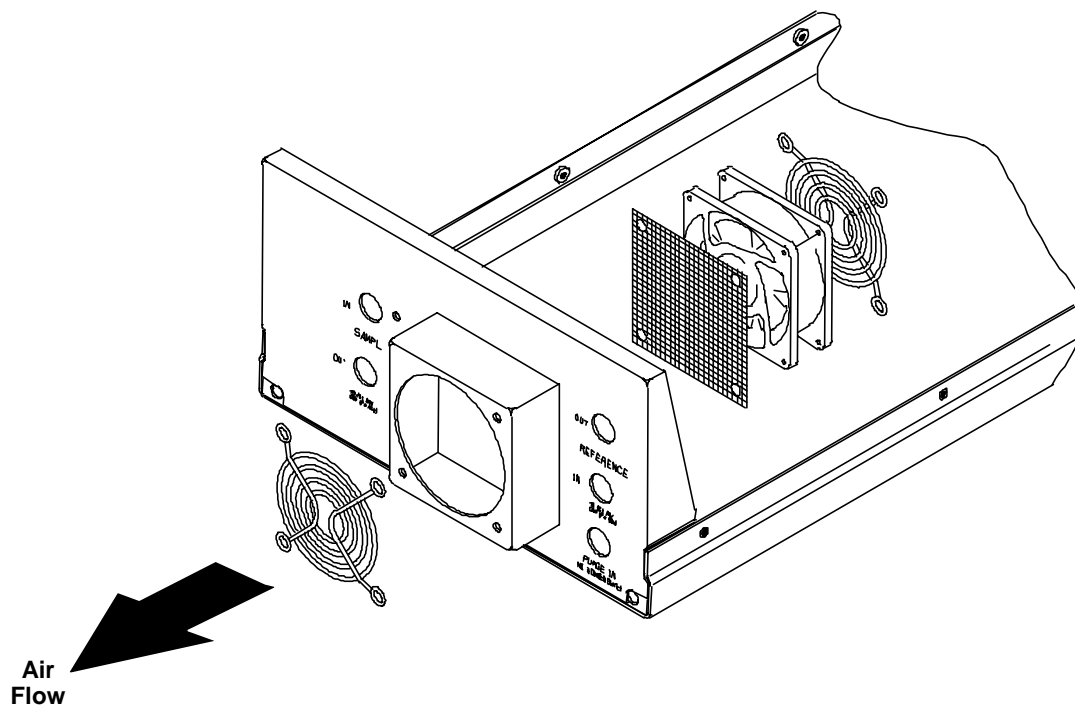
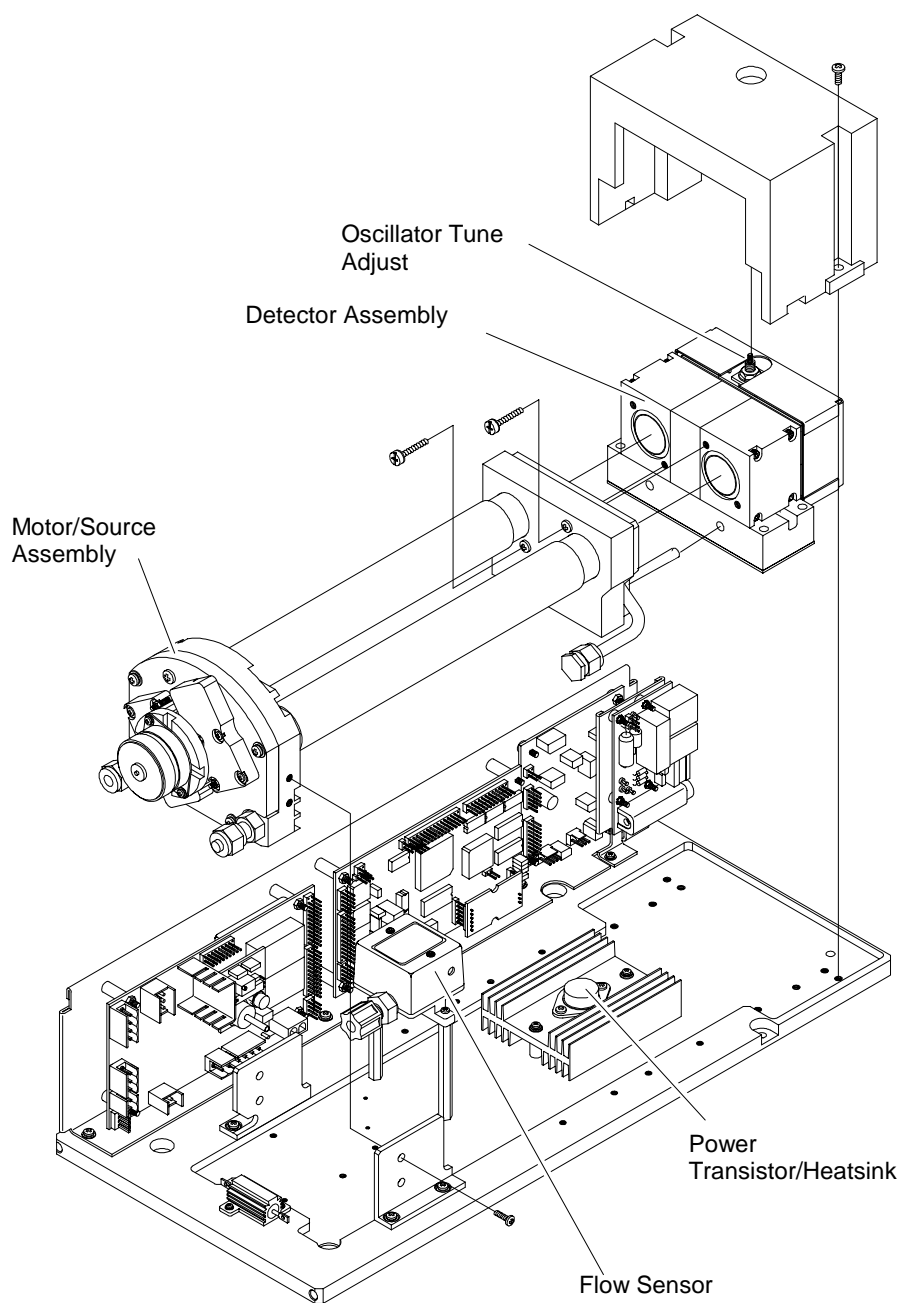

FIGURE 4-3. FAN ASSEMBLY
FIGURE 4-5. CELL, PCB ASSEMBLY – EXPLODED VIEW
The Analyzer Module fan assembly is disassembled as shown in Figure 4-3. Before doing so, the entire optical bench must be removed. See Figure 4-5.
See Figures 4-5 and 4-7 for breakdowns of the optical bench. The entire optical bench must be removed in order to perform this disassembly.
See Figure 4-5 for Flow Sensor location. To replace Flow Sensor, remove all connecting hardware and undo connections to the sample line.
The Analyzer Module is calibrated, tuned and balanced at the factory. If the diagnostic values for oscillator tune and detector signals are within $\pm 5\%$ of the factory settings in Primary Variable Parameters and Modulation Check menus), no adjustment is necessary. If not, see Figure 4-5 and 4-6 for Oscillator Tune and Source Balance Shutter adjustments, and do the following:
7. Using an appropriate screwdriver that will fit through the Source Balance Adjustment Screw Holes (see Figure 4-5), rotate the sample shutter adjust screw until a minimum reading on the display is obtained. (A typical reading is 0.2 through 0.5.)
4. Disassemble the optical bench according to Figure 4-5 and the cells according to Figure 4-8.